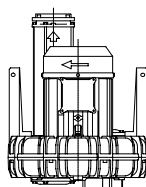
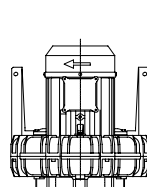
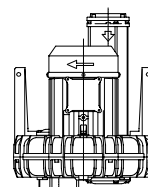

Fig.2
Fig.3
Fig.4
1. Identify the desired configuration (Fig. 2, Fig. 3, Fig. 4).
Fig. 2 with 90° manifold
Fig.3 with two 90° manifolds
Fig.4 with 90° manifold